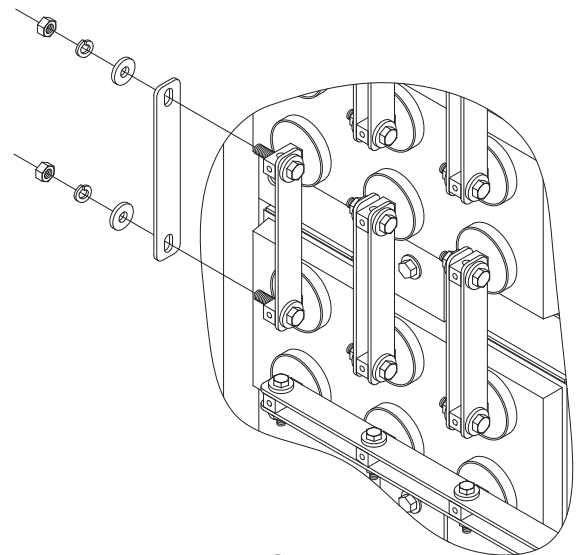

FIGURE 17
3. Bolt all inter-cell connectors according to the *ASSEMBLY DRAWING*. Assemble as the example shown in Figure 17 and below list: